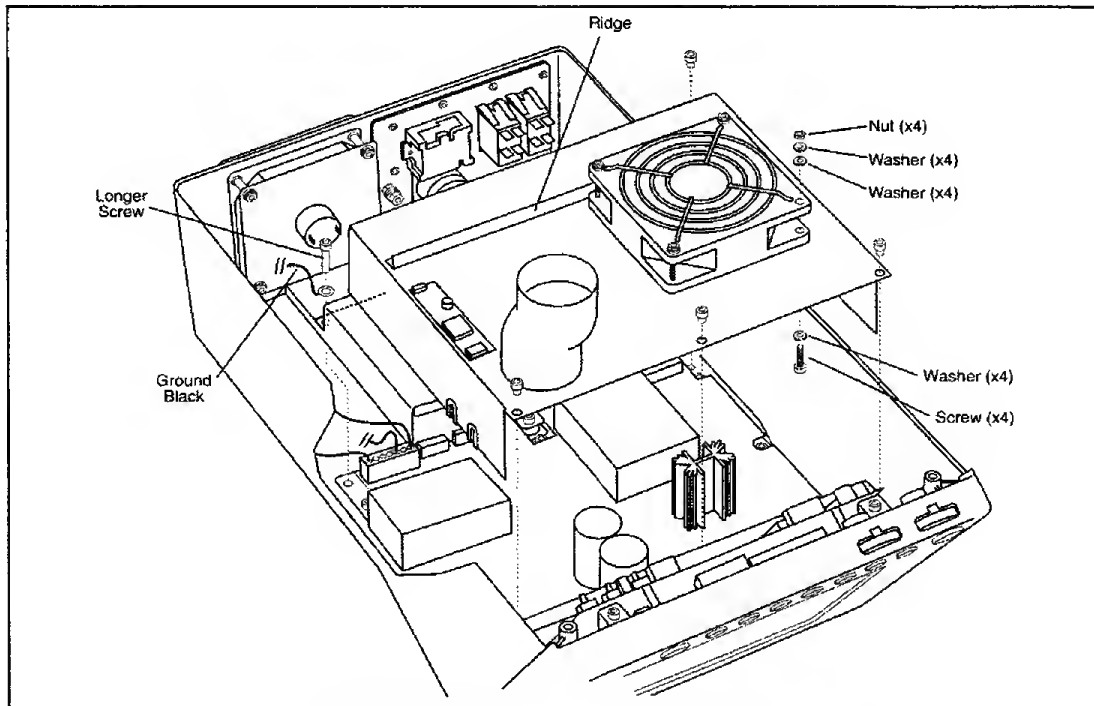

Figure 7-5: Power Supply Shroud and Fan
4. Remove five screws holding the power supply shroud then remove the shroud (see Figure 7-5).
7. Fasten the black ground wire with longer screw to the shroud (see Figure 7-5).
8. Fasten the shroud with the remaining four screws (see Figure 7-5).